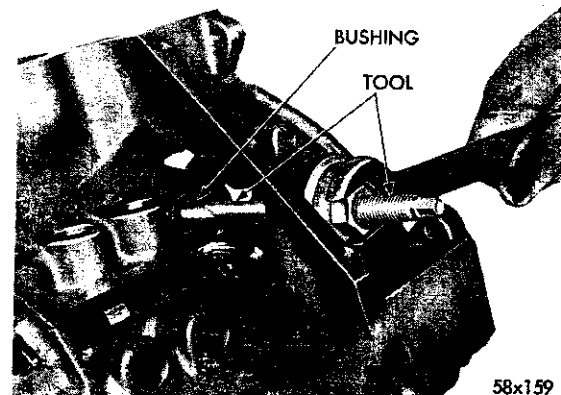

Fig. 32—Removing the Distributor Drive Shaft Bushing Using Tool C-3052
- (1) Insert Tool C-3052 into the old bushings and thread down until a tight fit is obtained (Fig. 32).
- (2) Hold the puller screw and tighten puller nut until the bushing is removed.